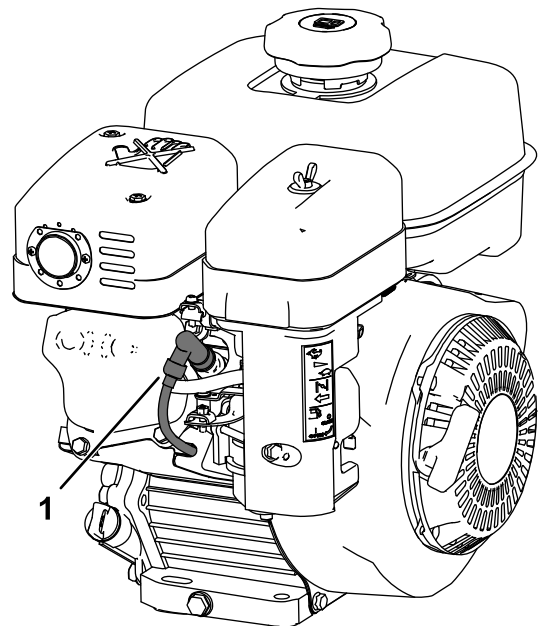

Figure 5
5. Disconnect the spark-plug wire (Figure 5).